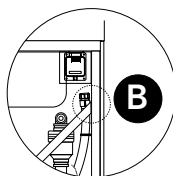
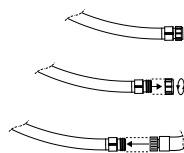

Figure 13.3f
Figure 13.3g
2. Locate drain hose line attached to the 2 x 4 wood slat, Figure 13.3f. Hold drain hose above water line. Unscrew drain valve cap to expose the underlying male garden hose fitting, Figure 13.3g.
3. Attach female garden hose end to drain fitting and route opposite end of garden hose away from hot tub, Figure 13.3g. **Note:** Make sure to direct water away from hot tub.